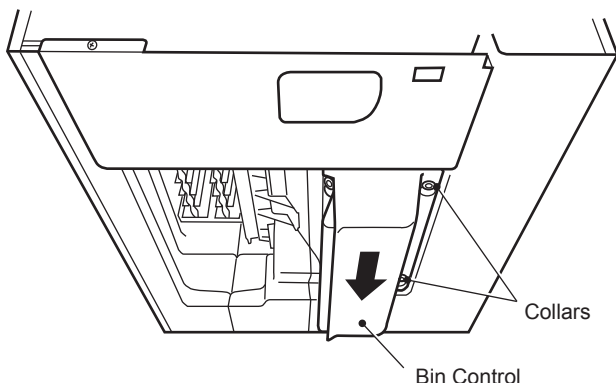

**Fig. 4**
6) Route the bin control lead through the hole in the base, then into the bushing provided. See Fig. 4.